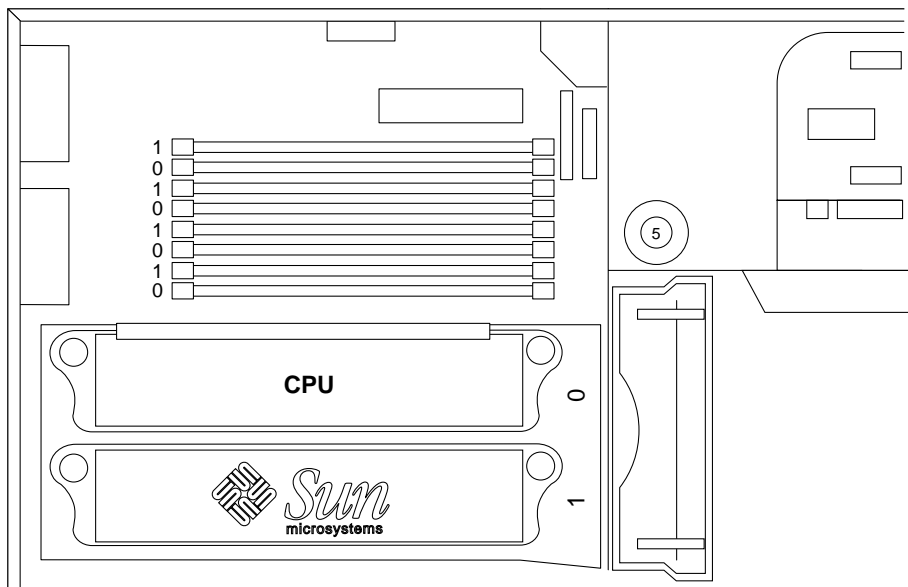

FIGURE 14 DIMM Banks on the Motherboard
- The system’s dual in-line memory modules (DIMMs) are arranged in two logical banks, bank 0 and bank 1, each bank consisting of four connectors. See FIGURE 14.
- The default position for DIMMs installed at the factory is in the four connectors labeled “0” in FIGURE 14.